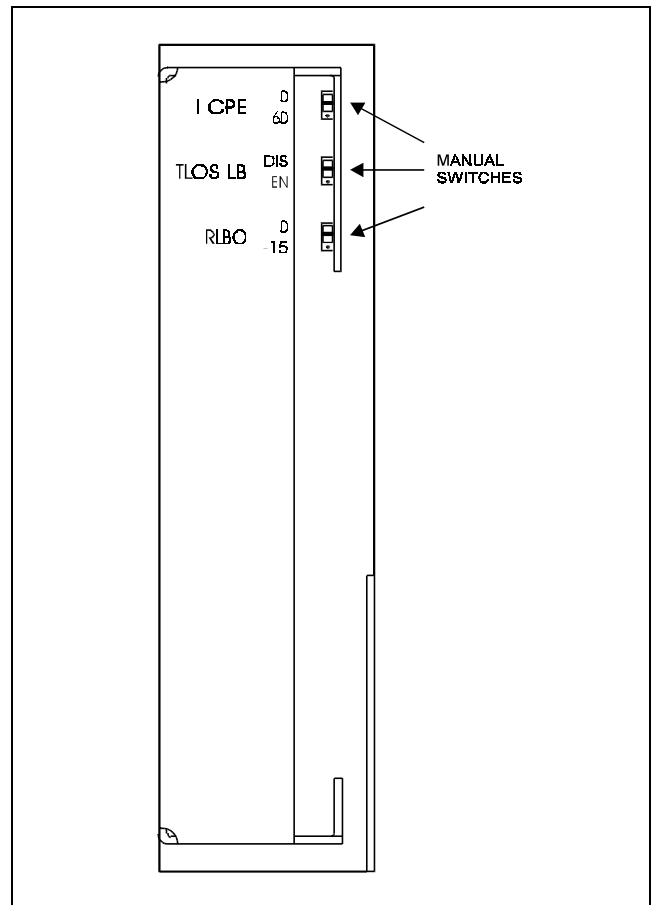

Figure 4. HRU-612 Manual Switches
**9.01** The HiGain-2 List 1 system has several special loopback (SPLB) options that are set at the HLU. Refer to practice # 150-611-100 for more details. The HRU also has three user options set by switches located at the back of the unit as shown in Figure 4. Each switch has two settings as follows (refer to the block diagram in Figure 2 for details):